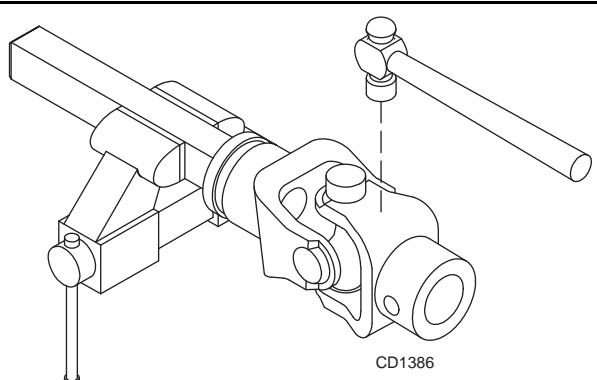

Figure 28
- With snap rings removed, support drive in vise, hold yoke in hand and tap on yoke to drive cup up out of yoke. See Figure 28.